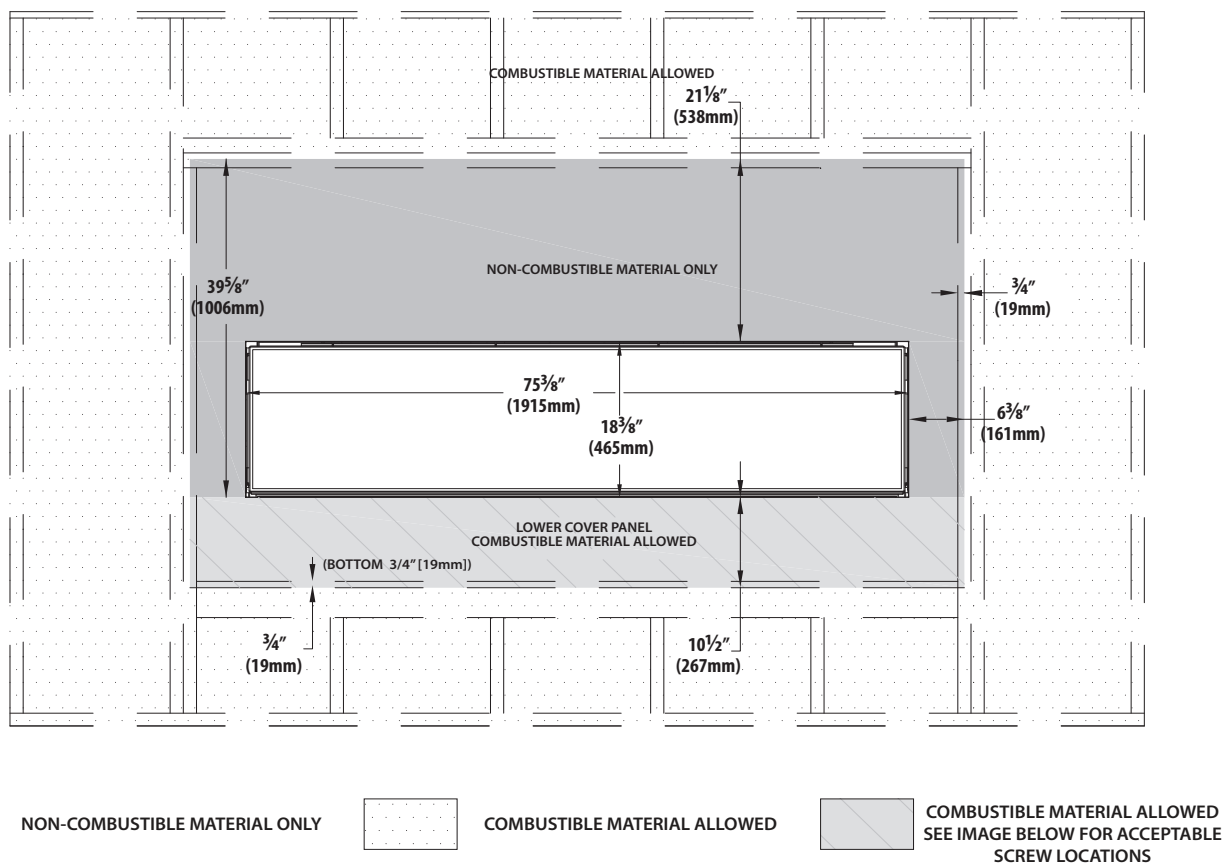

Figure 4.4, Minimum Non-Combustible Finishing Dimensions
3. Do not use screws above the framing for the gas and electrical components when installing the bottom panel. See Section Figure 4.4, Minimum Non-Combustible Finishing Dimensions on page 20 for maintaining required areas.